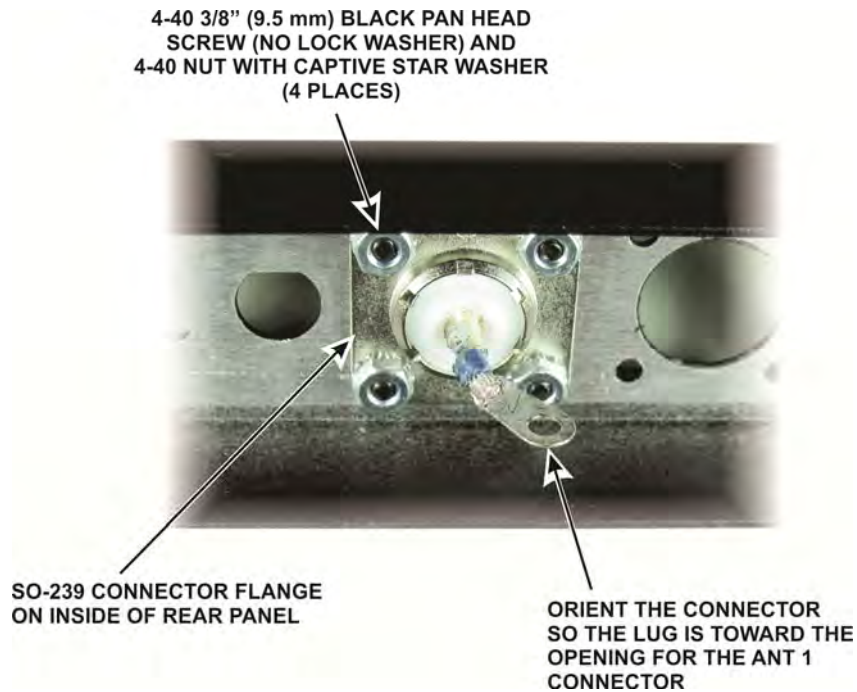

Figure 17. Installing the XMTR SO-239 Connector in the Rear Panel.
□ Install the XMTR SO-239 connector in the rear panel opening marked XMTR as shown in Figure 17. Take care not to bend the wire or move the solder lug. Place the flange of the connector inside the rear panel, and orient the connector so the lug on the wire points toward the ANT1 connector opening as shown.